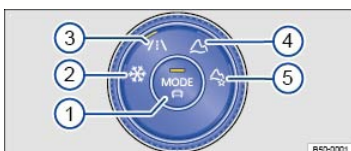

Fig. 121 In the lower center console: 4MOTION Active Control.
Key to ⇒ Fig. 121:
- Turn the knob until the desired driving mode lights up ⇒ Fig. 121.
- *For on-road driving modes:* Turn the knob to position ⇒ Fig. 121③ and press the Driving Mode Selection button ⇒ Fig. 121① until the desired driving mode is highlighted.
- Turn the 4MOTION Active Control knob to the On-road setting ⇒ Fig. 121③.
- Turn the knob until the Custom off-road icon lights up ⇒ Fig. 121⑤.